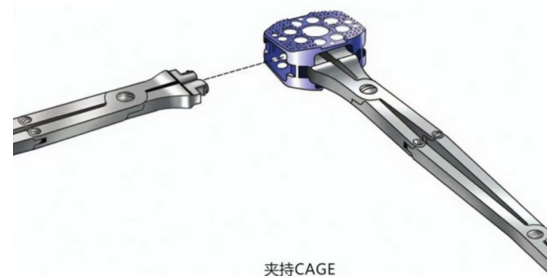

Fig. 4a
- The selected Cage is locked onto the extracting forcep, and the Cage is 1 mm larger than the test body of the same size. (Fig. 4a).